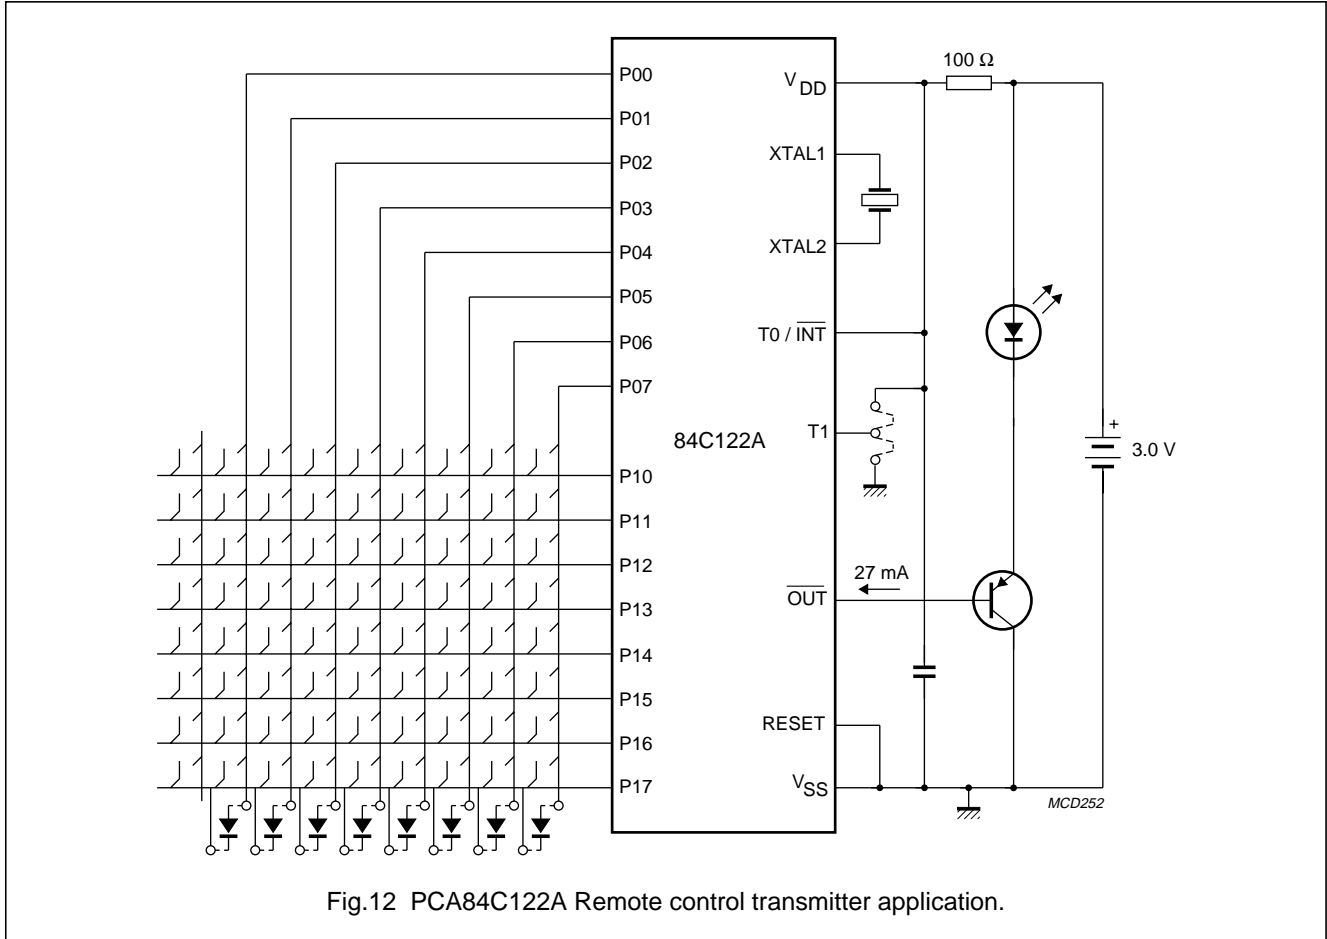

Fig.12 PCA84C122A Remote control transmitter application.
Figure 12 shows the main application of the PCA84C122 as a remote control transmitter. Each key of the transmitter keypad represents a specific command. The keys are in an orderly matrix with each key connected between an I/O line of Port 0 and an I/O line of Port 1.
2. By connecting diodes between one sense line and a number of scan lines (see Fig.12). If necessary these diodes can be placed parallel to the keys. When the sense line is set to logic 0 (acts as scan line), the option setting can be read from the scan lines (which act as sense lines and should be set to logic 1 beforehand).